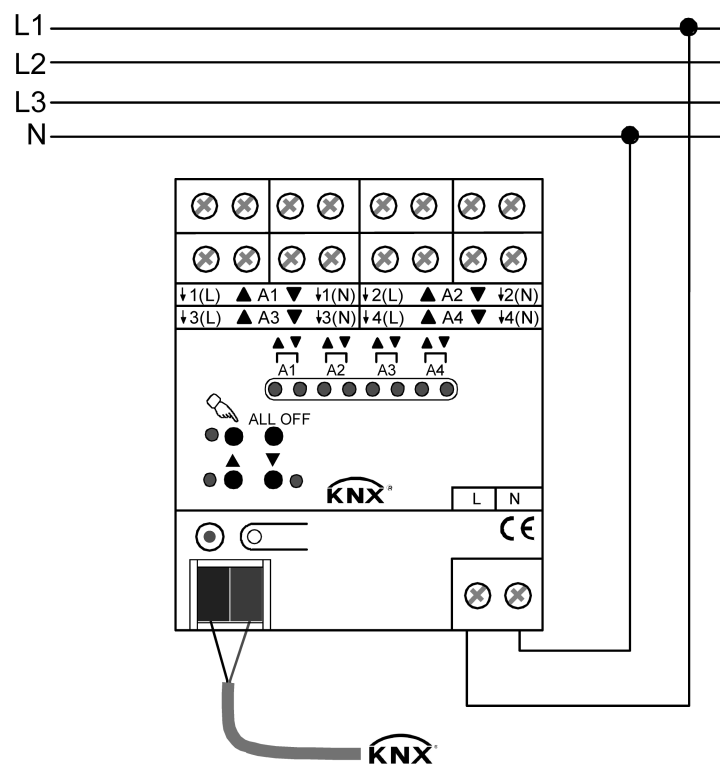

Figure 2: Electrical connection of mains voltage and bus cable
- Connect the bus (standard bus terminal) and the mains voltage as shown in the connection diagram (figure 2).